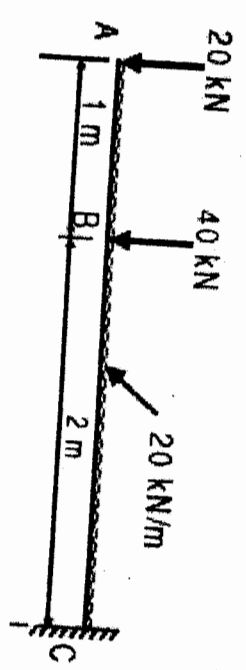

Figure 7
- (b) Draw the shear force and bending moment diagram for the beam shown in figure 7.